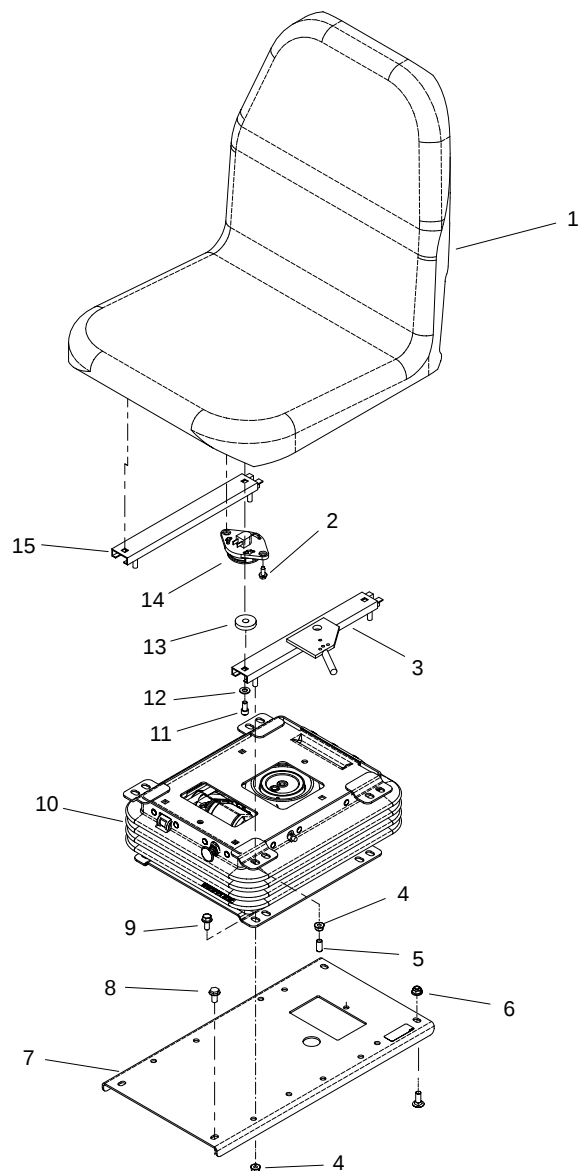

Figure 8
Removal (Fig. 8)
3. Remove two (2) flange head screws (item 8) and two (2) flange nuts (item 6) that secure seat base to machine.
5. Remove seat components as necessary using Figure 8 as a guide.
Installation (Fig. 8)
1. Install seat components using Figure 8 as a guide.
3. Secure seat base to machine with two (2) flange head screws (item 8) and two (2) flange nuts (item 6).